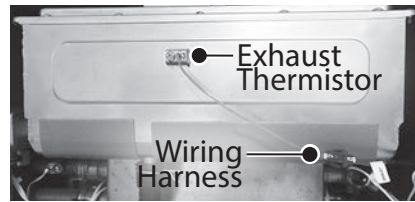

Figure 62 - Exhaust thermistor location
- 14 Locate the exhaust thermistor as shown in Figure 62.